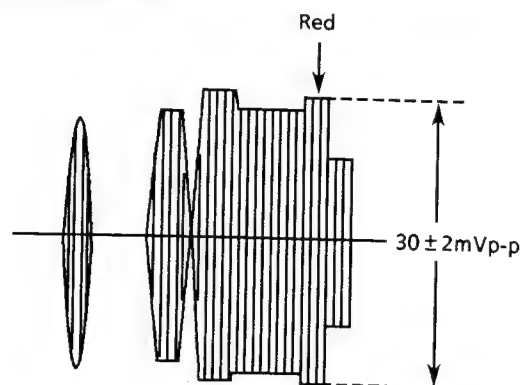

Figure 2-9
- (3) Set the unit in EP-record mode.
- (4) Turn R321 to minimize the FM luminance signal.
- (5) Adjust R320 so that the amplitude of red portion is 30 mVp-p as shown in Figure 2-9.